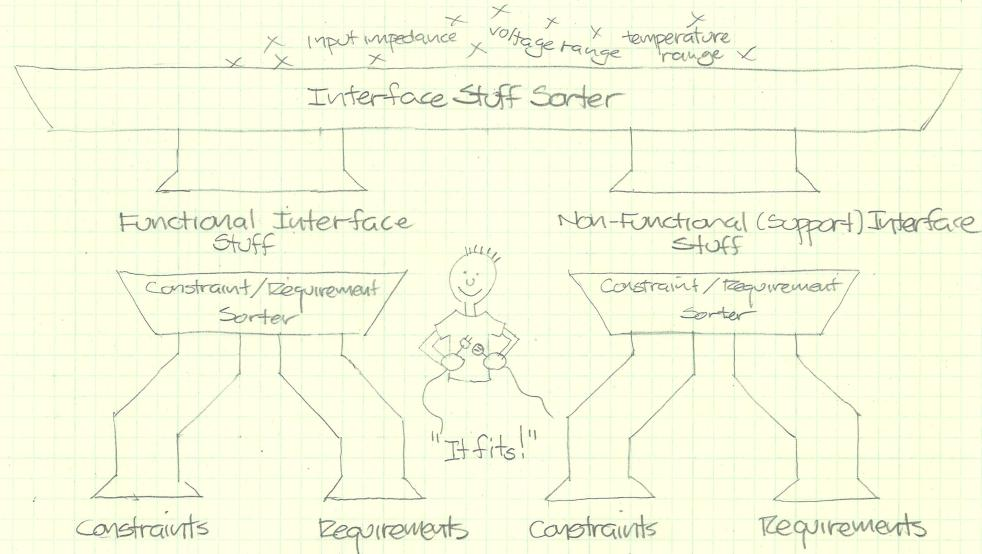

Figure 2: A machine that sorts Interface Stuff into appropriate categories.
*The Course Instructor's Pedagogical Requirements has one item classified as Interface Stuff dealing with the input impedance of the amplifier. This item must be further sorted by the machine in Figure 2. This machine determines if the item is a constraint or a requirement.*